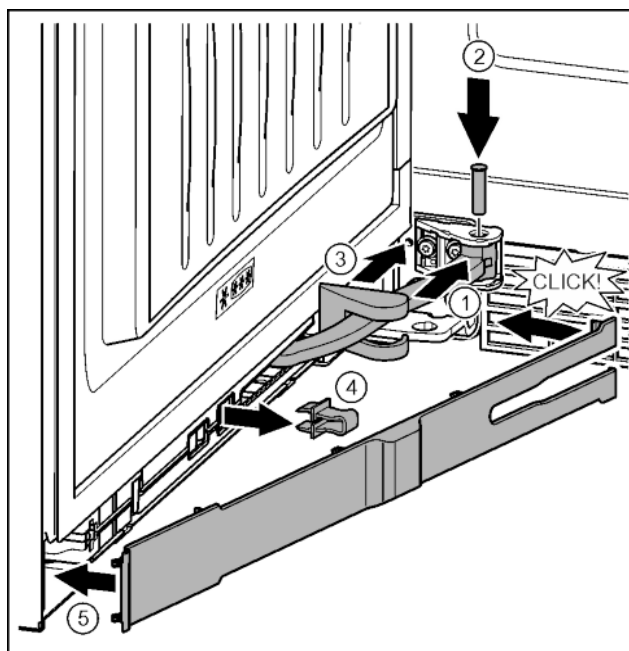

Fig. 39
- ▶ Turn the hinge in the mount. *Fig. 39 (1)*
- ▶ Insert the bolt with a T15 screwdriver in the mount and hinge. Make sure that the catch mechanism is sitting correctly in the groove. *Fig. 39 (2)*
- ▶ Push the bearing bracket cover along the hinge and fit on the mount. *Fig. 39 (3)*
- ▶ Remove the locking device. *Fig. 39 (4)*
- ▶ Position the panel on the handle side and swing it in. *Fig. 39 (5)*